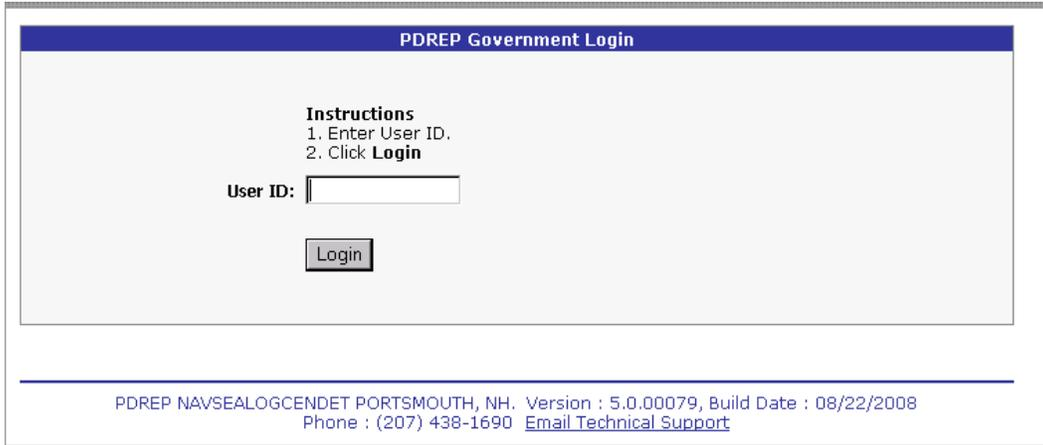

Figure 1.5
- h. In the PDREP Government Login screen that follows (Figure 1.5), enter your User ID and click the Login button.